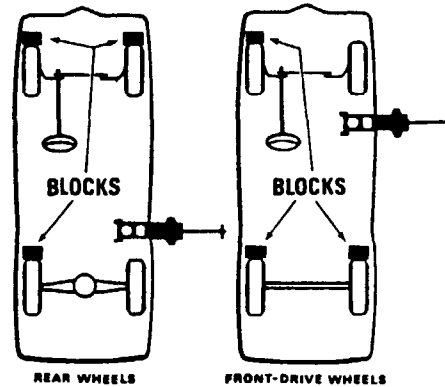

Fig. 16
- (A) Block the wheels as shown in Fig. 16.
- (B) Jack up the car under the frame, at the car-factory-approved jacking point, ahead of the rear wheel to be balanced. On front-wheel drive vehicles, jack up under frame, at the car-factory-approved jacking point, behind the front-wheel to be balanced. Make sure jack is secure and wheels are blocked properly.